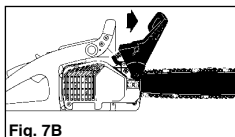

Fig. 7B
2. The Chain brake is **ENGAGED** (chain is stopped) when brake lever is in forward position. You should not be able to move chain (Fig. 7B).